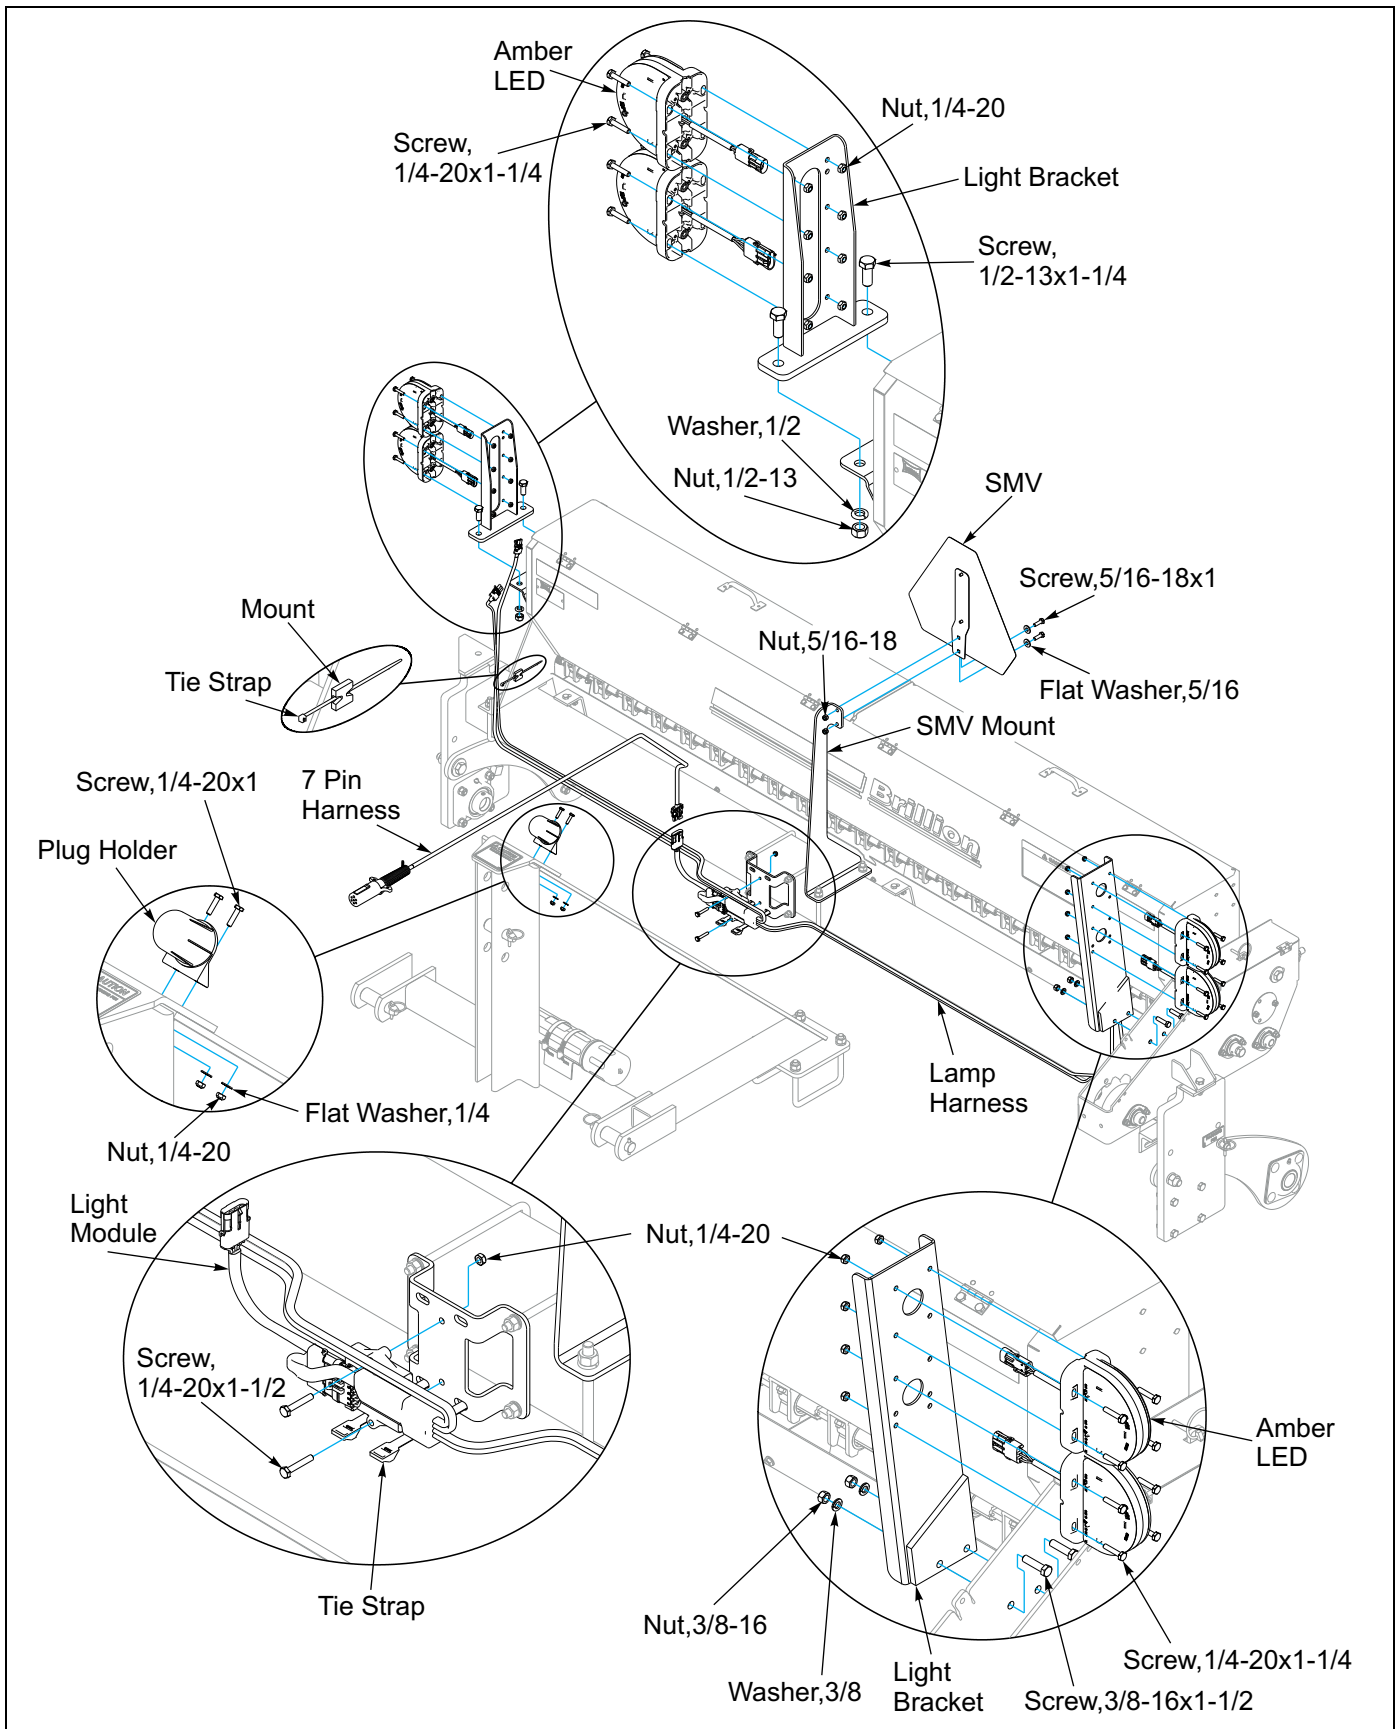
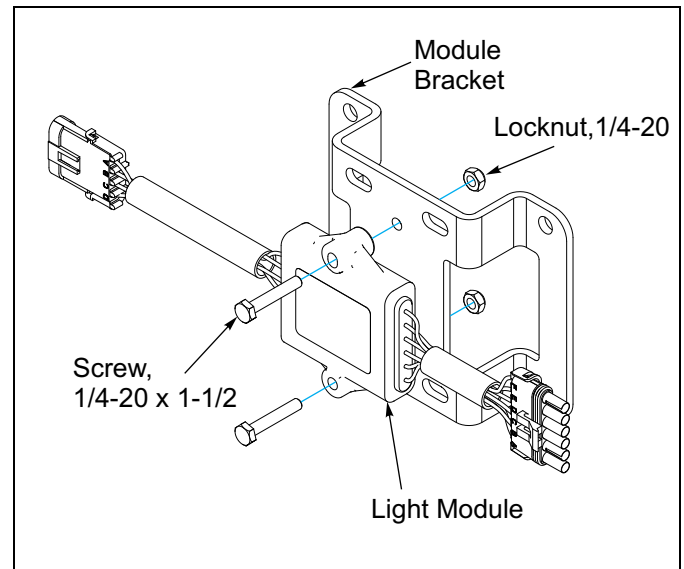

Figure 2-10: LED Warning Lights, 8' 3 Pt. Assembly
Figure 2-11: Light Module and Bracket
1. Attach longer Light Bracket to the transmission housing located on the left side of the seeder, using (2) 3/8-16 x 1 1/4 Screws, Lockwashers and Nuts.
2. Attach Amber LED to the upper portion of the longer Light Bracket using (4) 1/4-20 x 1 1/4 Screws and Locknuts. attach a Red LED below the Amber LED using (4) 1/4-20 x 1 1/4 Screws and Locknuts. Ensure Red LED lenses faces rearward. **See Figure 2-10.**
3. On the right side of the seeder attach the shorter Light Bracket to the angle bracket using (2) 1/2-13 x 1 1/4 Screws, Lockwashers and Nuts.
4. Attach Amber LED to the upper portion of the Light Bracket using (4) 1/4-20 x 1 1/4 Screws and Locknuts. attach a Red LED below the Amber LED using (4) 1/4-20 x 1 1/4 Screws and Locknuts. Ensure Red LED lenses faces rearward.
5. Attach the Light Module to the Module Bracket using (2) 1/4-20 x 1 1/2 Screws and Locknuts. **See Figure 2-11.**